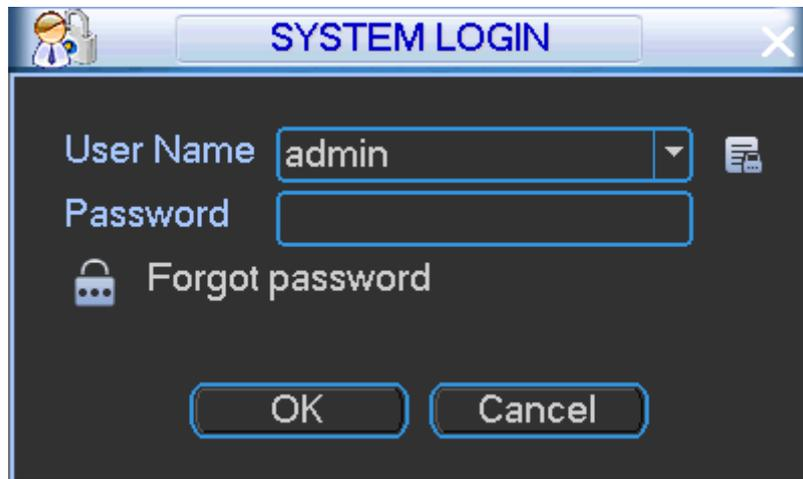

Figure 4-1
Step 1 On the preview interface, right click mouse and select Main menu, Enter login interface. See Figure 4-1.